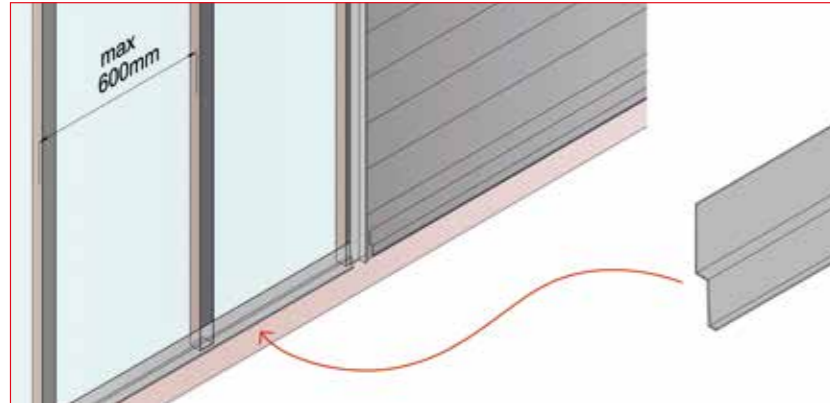

fig.20 – Starter trim
- Fix starter trim along the base of the timber/ steel vertical frames, ensuring it is level and fix into position (see fig. 20)